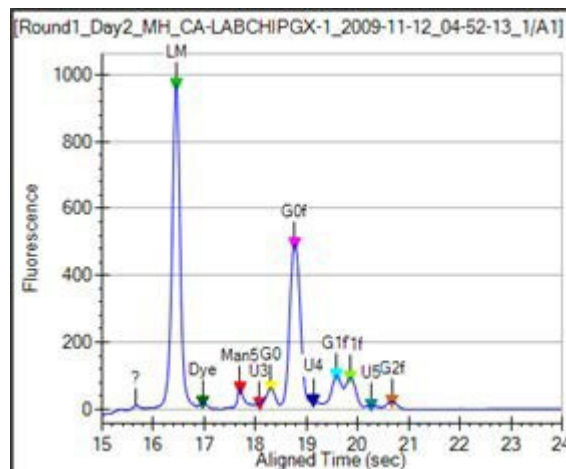

Figure 16. Markers - Glycan
- 6 A **Lower Marker** is the internal standard used to align the ladder data with data from the sample wells. Figure 16 shows an example of the assigned **Lower Marker** peak (marked LM) in a sample well.